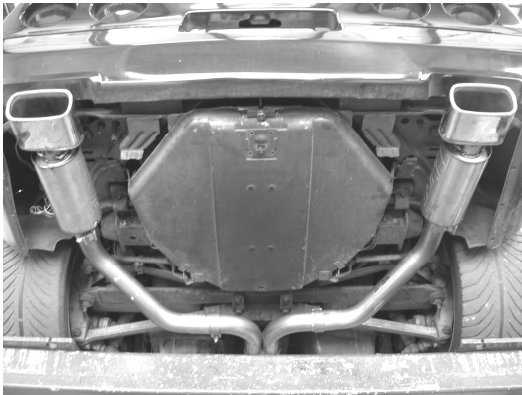
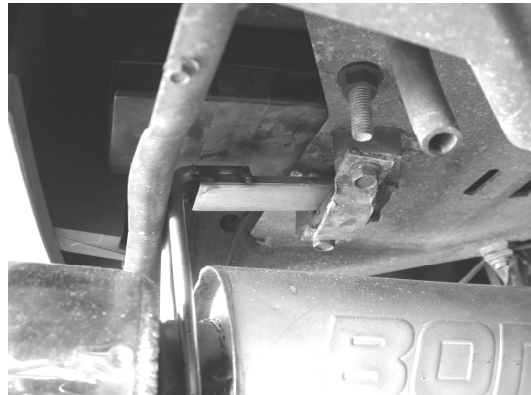

Figure 3
Figure 4
4. Place a clamp over the expanded end of each intermediate pipe and place the intermediate pipe/muffler assemblies into position as shown in figure 3 making sure to install the hangers into the rubber brackets as shown in figure 4.